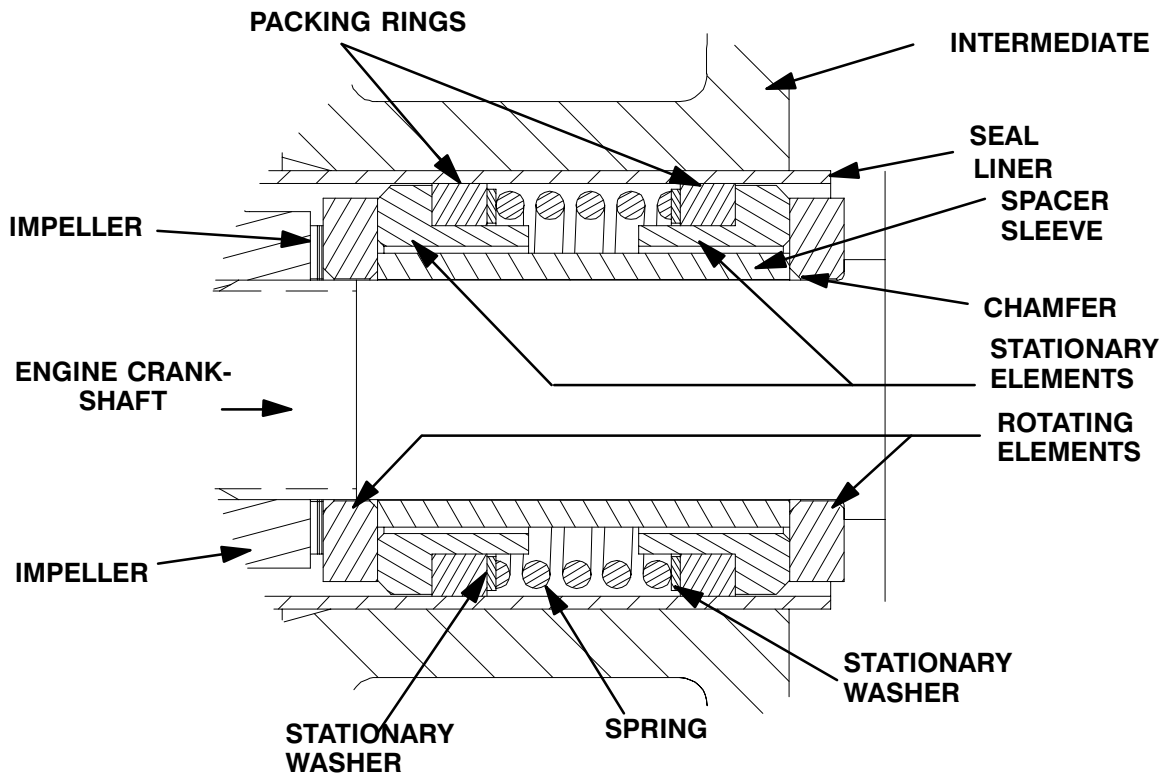

Figure 3. GS1000 Seal Assembly
To ease installation of the seal, lubricate the seal liner (8) with water or a very **small** amount of oil, and apply a drop of light lubricating oil on the finished faces. Assemble the seal as follows, (see Figure 3).